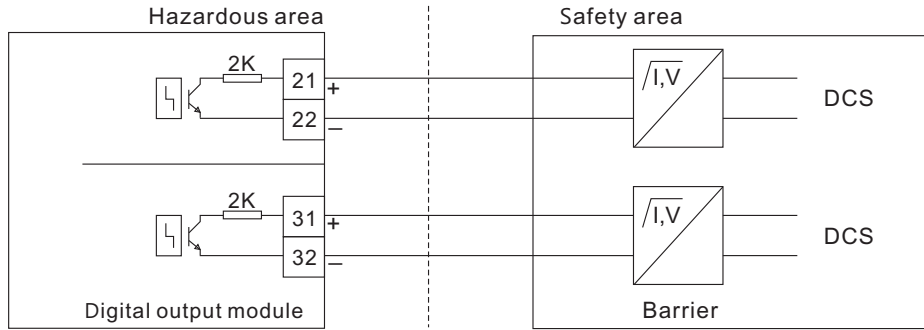

Fig 4-11 : Digital output module electrical connection
4.4.3.2 Digital output module electrical connection (Fig 4-11)